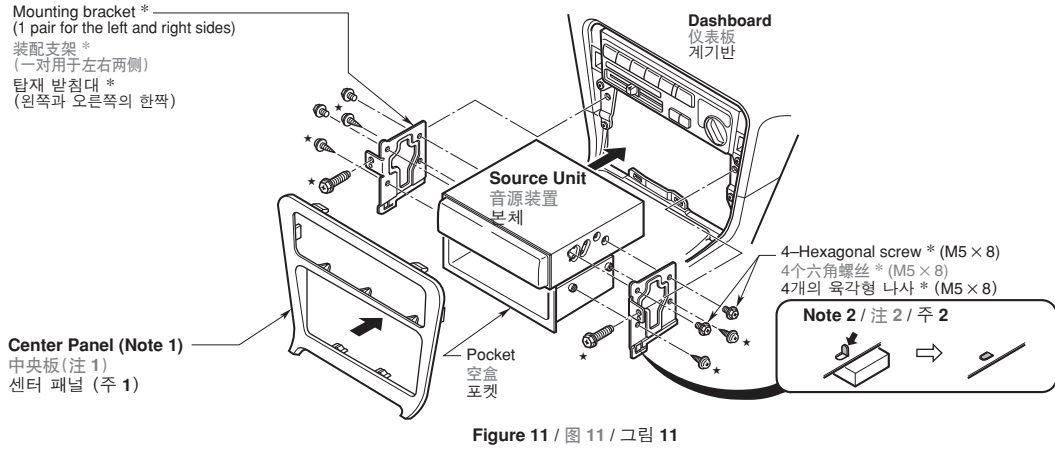

Figure 11 / 图 11 / 그림 11
This unit is designed for fixed installation in the dashboard. If the vehicle is equipped with a factory-installed radio, install the source unit with the parts and screws marked (\*). (Figure 11)
- Secure the mounting brackets to the chassis as shown in Figure 11. When the source unit is installed without the universal mounting bracket, holes exist; modification, such as drilling new holes, of the mounting brackets may be required for other models.
(图11)
- 如图11所示, 将装配支架固定在底盘上。在不使用通用装配支架的情况下安装主机时, 有现成的安装用孔。其它车型可能需要改造装配支架, 如钻出新孔等。